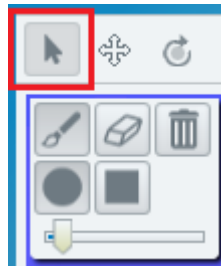

Figure 54: The region marking toolbox
8. Click **Select** to access the region marking toolbox to mark interesting part features. Select the shape of your marker (square or circular) and adjust the size using the slider. If needed, use the eraser to revise your markings or use the trash can to erase all markings, see figure 54.